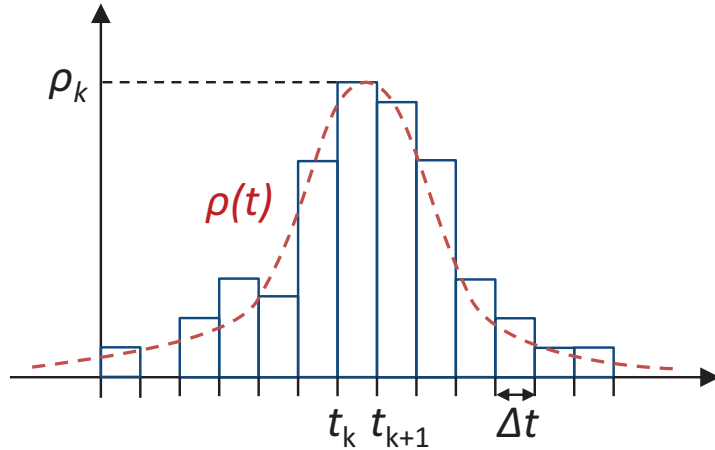

FIG. 1: Graphical representation of the results of repeated measurements and their continuous limit.
It is convenient to represent this result graphically in the form of a *histogram*, see Fig. 1. Usually we will see that maximal ρ_k group around certain value of $k = \tilde{k}$. So, logically the true value of t should belong to the interval $[t_{\tilde{k}}, t_{\tilde{k}+1}]$. To increase accuracy of our true-value estimation, we can try to decrease the interval length Δt . However, note that if we just decrease Δt keeping N unchanged, many intervals will not contain any measured numbers t_i at all. So, as a rule with decreasing Δt we should also simultaneously increase the number
Logically, since the quantity t assumes continuous values, we can consider the limit $\Delta t \rightarrow 0$ (and simultaneously $N \rightarrow \infty$). It is natural to expect that in this *continuous limit* we will obtain a continuous line, something like shown by a red dashed line in Fig. 1. It is easy to see that this line is described by a continuous function $\rho(t)$ such that
The probability distribution function $\rho(x)$ gives you as completely information as possible for the measured quantity x subject to random errors. For most of the probability distribution functions encountered in nature, the mean value $\langle x \rangle$ given by Eq. (9) corresponds to the value which you would measure with the highest probability in a single measurement. This value is your *true* value of the physical quantity x . However, in reality the probability distribution function is not known *a priori*. You can find it approximately by making N independent measurements and plotting a histogram, like in Fig. 1. Obviously, you can